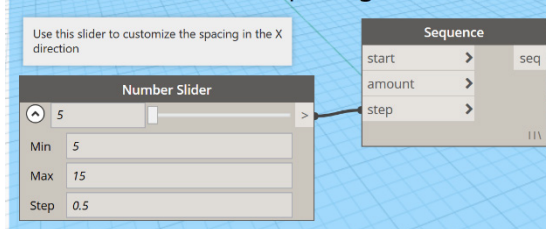

Figure 42
23. Rename the group: **2. Establish the wall spacing** (see Figure 42).